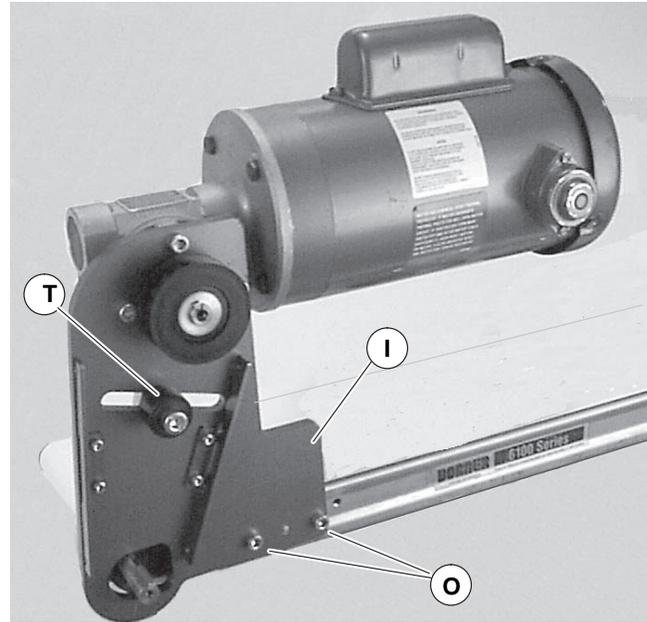

Figure 13
5. Attach mount assembly (Figure 13, item I) with screws (O). Tighten to 80 in-lb (9 N-m).
- Remove cam bearing and spacer (Figure 13, item T). Place the cam bearing and spacer (Figure 13, item T) next to the driven pulley (M). Ensure the flanges of the driven pulley are aligned with the cam bearing. Tighten driven pulley set screws (U). This will allow for proper belt alignment while conveyor is in use. Replace cam bearing and spacer (T).